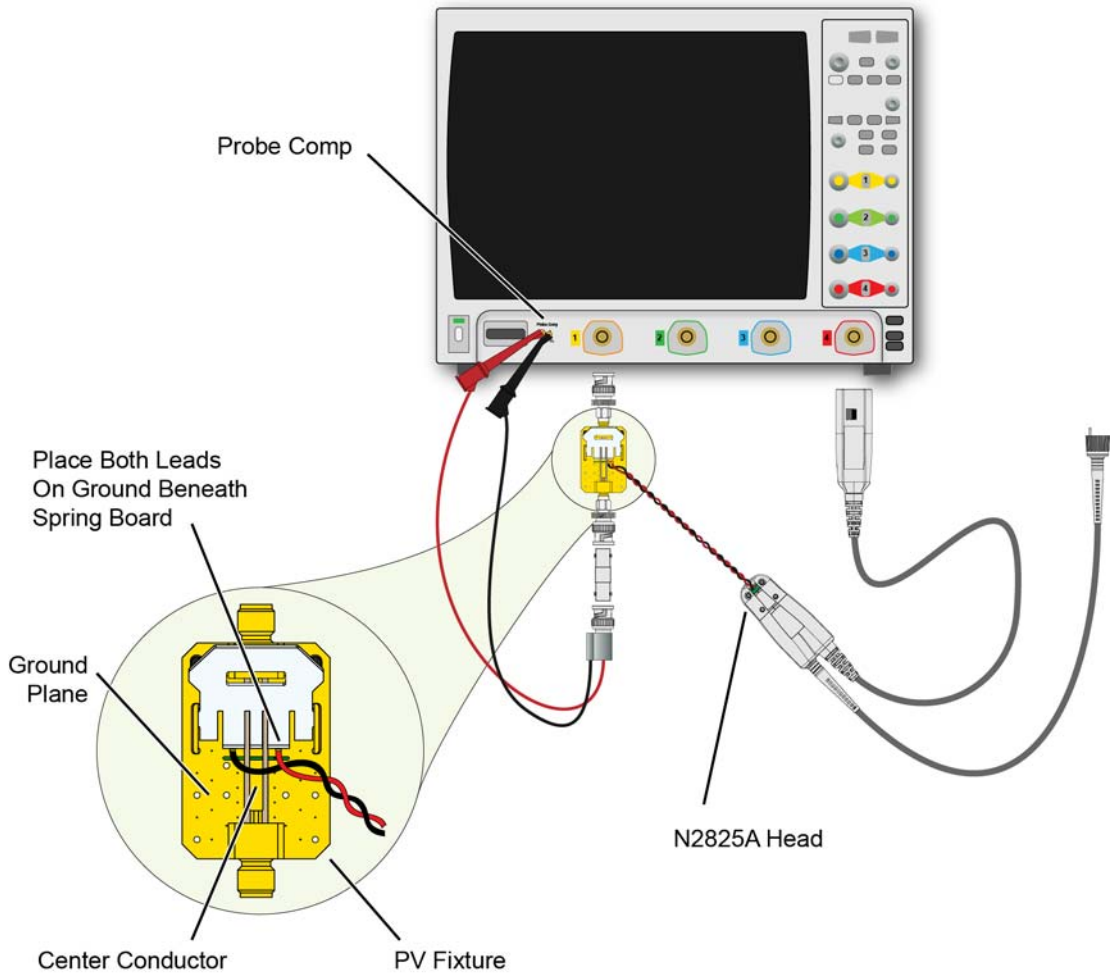

Figure 31 Example of Initial Calibration Setup
- 4 Connect the equipment as shown in Figure 31 on page 66. Observe the following requirements:
- ❑ Connect both of the N2825A's leads to the PV fixture's *ground plane* as shown in **Figure 31**. Use the PV fixture's spring board to hold the leads in place.